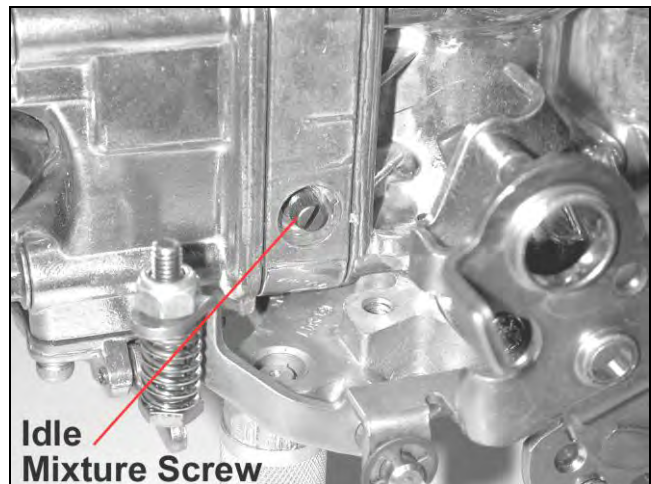

Figure 9
2. Adjust each idle mixture screw (Figure 9) 1/8 turn at a time, alternating between each screw. Turn them equally, until you achieve the highest possible vacuum reading without adjusting the curb idle speed screw. Turn screws in to lean the mixture. Turn them out to richen the mixture.